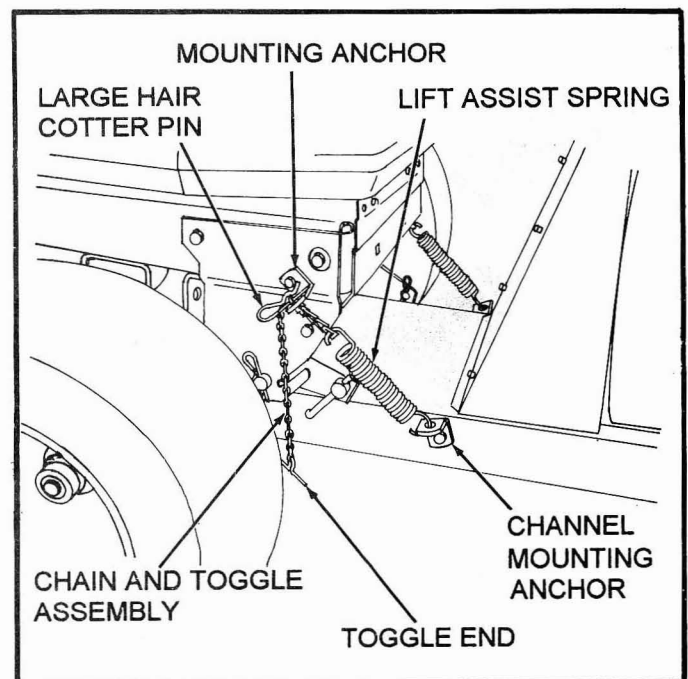

Fig. 21
- Thread Chain and Toggle Assembly through the mounting anchor. (See Fig 21)